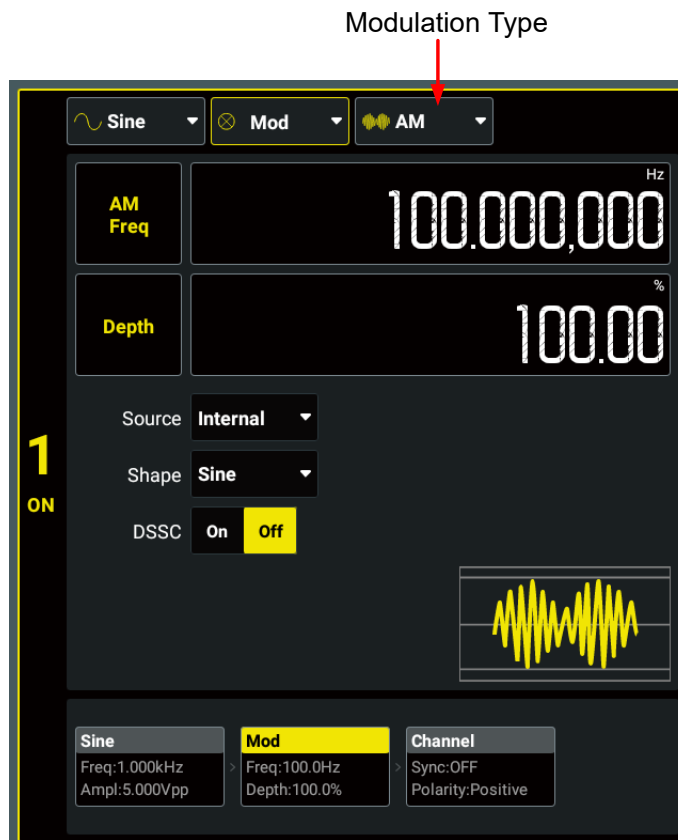

Figure 6.1 Modulation Setting Interface
6.1 Amplitude Modulation (AM)
In Amplitude Modulation (AM), a modulated waveform consists of a carrier waveform and a modulating waveform. The amplitude of the carrier waveform is varied by the instantaneous voltage of the modulating waveform. In the "Modulation Setting Interface" (Figure 6.1), click or tap the "Modulation Type" drop-down button to select "AM" and set its parameters.
6.2 Frequency Modulation (FM)
In Frequency Modulation (FM), a modulated waveform consists of a carrier waveform and a modulating waveform. The frequency of the carrier waveform is varied by the instantaneous voltage of the modulating waveform. In the "Modulation Setting Interface" (Figure 6.1), click or tap the "Modulation Type" drop-down button to select "FM" and set its parameters.
6.3 Phase Modulation (PM)
In Phase Modulation (PM), a modulated waveform consists of a carrier waveform and a modulating waveform. The phase of the carrier waveform is varied by the instantaneous voltage of the modulating waveform. In the "Modulation Setting Interface" (Figure 6.1), click or tap the "Modulation Type" drop-down button to select "PM" and set its parameters.
With Amplitude Shift Keying (ASK), you can configure the instrument to "shift" its output amplitude between two preset values (called the "carrier amplitude" and the "modulation amplitude"). In the "Modulation Setting Interface" (Figure 6.1), click or tap the "Modulation Type" drop-down button to select "ASK" and set its parameters.